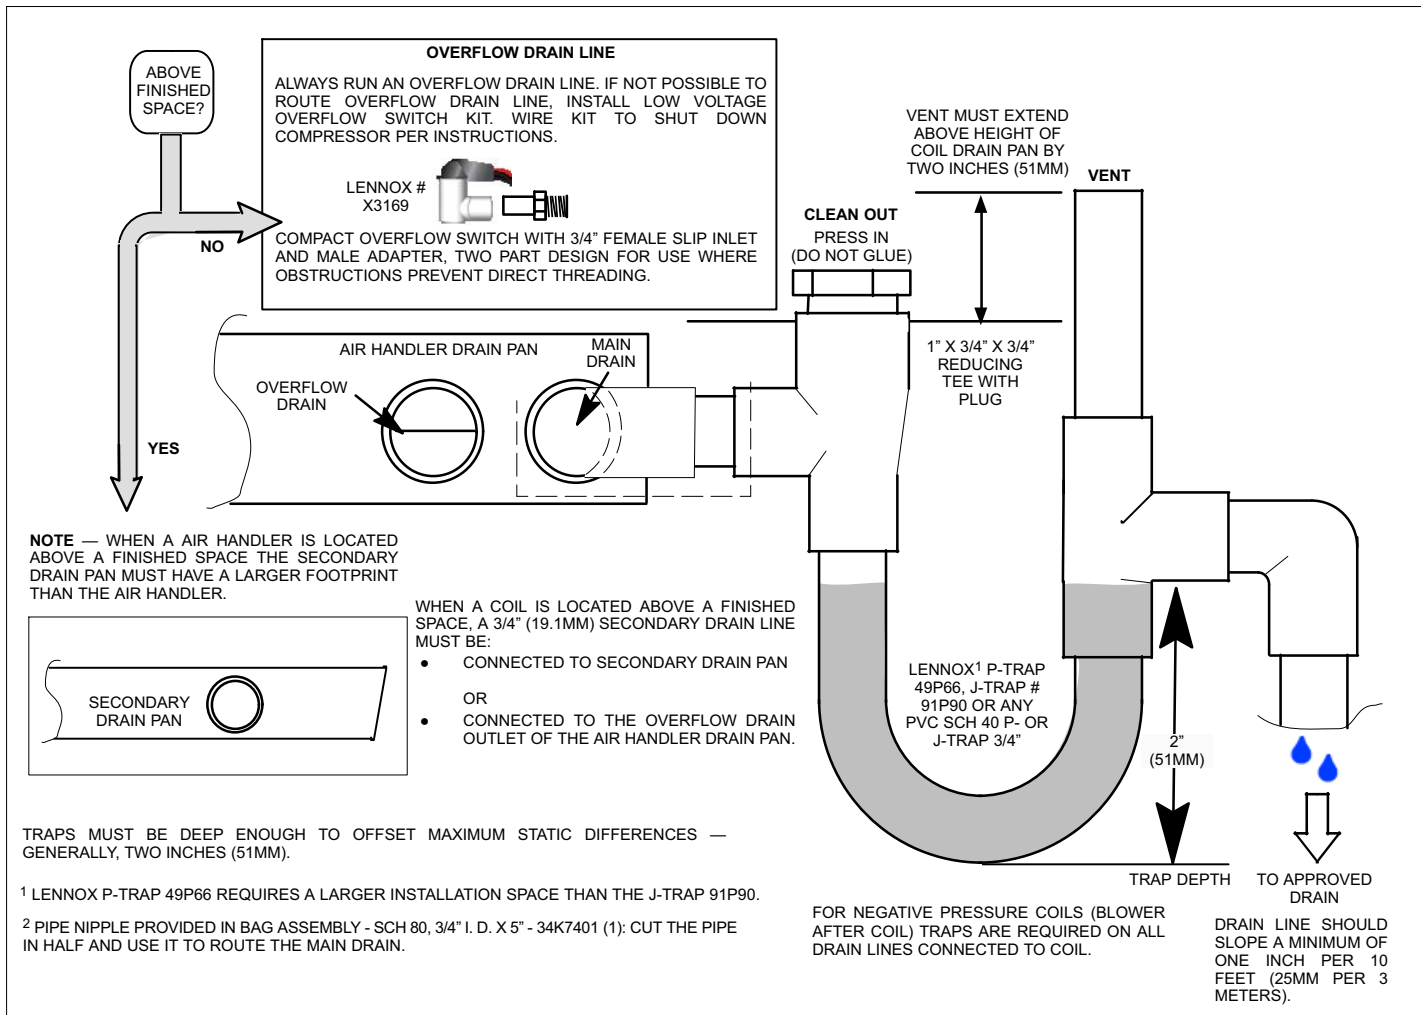

Figure 32. Typical Main and Overflow Drain
7. Install a 2" trap in the main (primary) drain lines as close to the unit as practical (see figure 32). Make sure the top of the trap is below the connection to the drain pan to allow complete drainage of the pan.
NOTE - Horizontal runs must have an anti-siphon air vent (standpipe) installed ahead of the horizontal run. See figure 32. An extremely long horizontal run may require an oversized drain line to eliminate air traps.